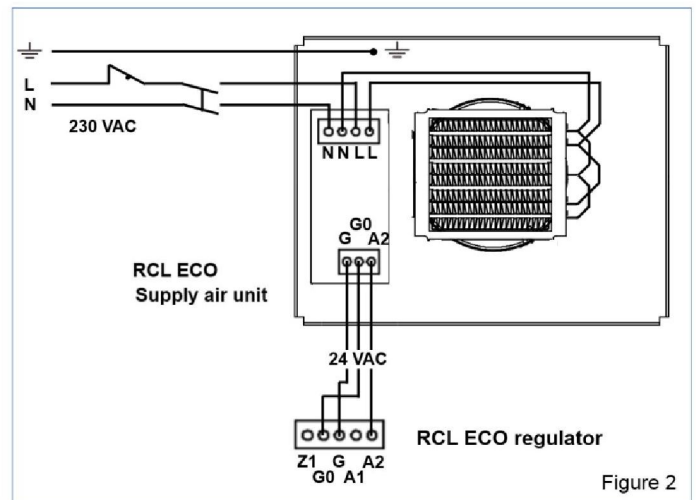

Figure 2
1. Connect supply voltage (230V) to terminals N and L of the electronic part of the supply air unit as shown on Figure 2.
2. Connect the grounding to the separate ground terminal in the supply air unit as shown on Figure 2.
3. Connect the supply air unit of the ECO series to the regulator by means of the KLMA cable as shown on Figure 2.
2. Remove the cover (2) of the regulator from the rear part (1), using e.g. a small screwdriver (clips at the upper and lower edge of the thermostat).
3. Fix the rear part of the regulator either to the instrument box or directly on the wall, using screws (3).
4. Connect the cables to the terminal block (5) as shown on Figure 2.